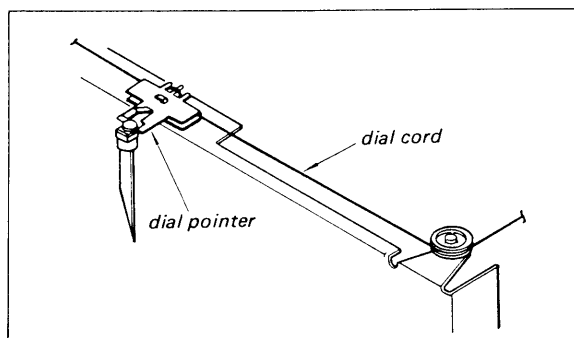
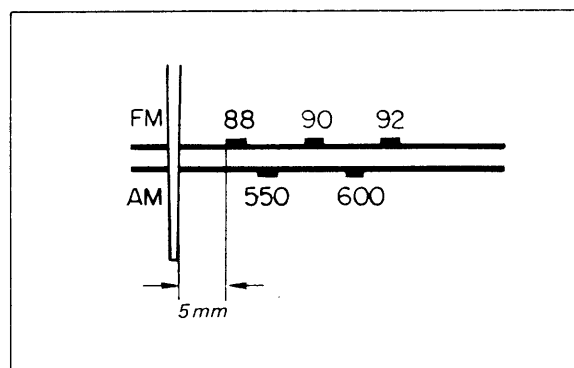

Fig. 2-11. Dial pointer installation
Fig. 2-12. Mechanical dial calibration
1. Put the dial pointer on the cord as shown in Fig. 2-11 and move it to a position where the pointer comes to 5 mm right from the left edge of the dial scale as shown in Fig. 2-12.